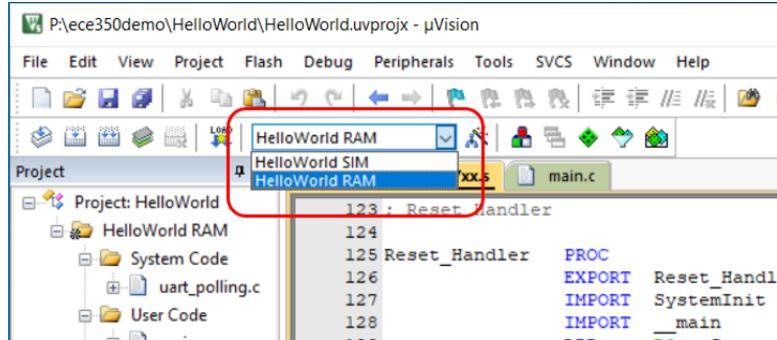

Figure 8.27: Keil IDE: Select HelloWorld RAM Target. Configure in-memory code execution as shown in Figure 8.28.
3. Switch your target to the newly created RAM target (See Figure 8.27).